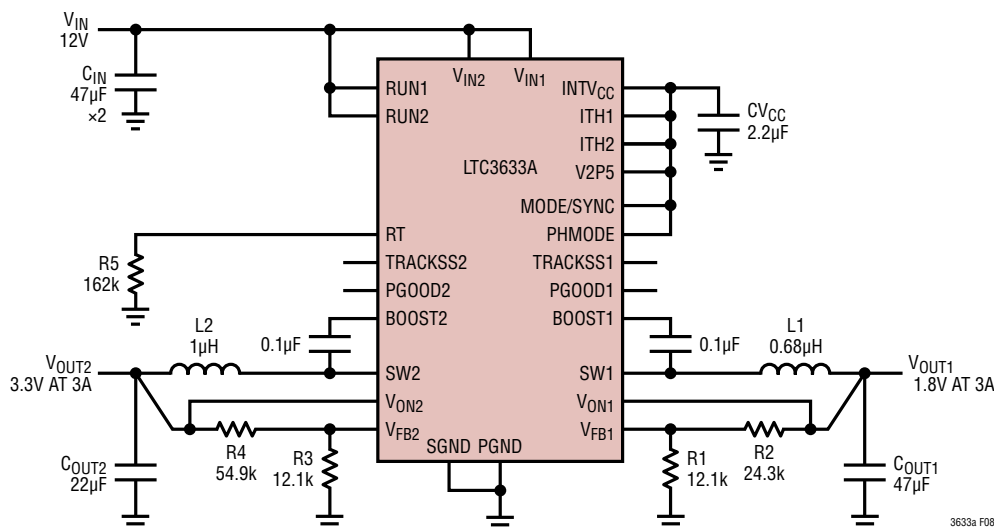

Figure 8. Design Example Circuit
- 3) The resistive divider, (e.g. R1 to R4 in Figure 8) must be connected between the (+) plate of C_{OUT} and a ground line terminated near SGND. The feedback signal V_{FB} should be routed away from noisy components and traces, such as the SW line, and its trace length should be minimized. In addition, the R_T resistor and loop compensation components should be terminated to SGND.
The final circuit is shown in Figure 8.